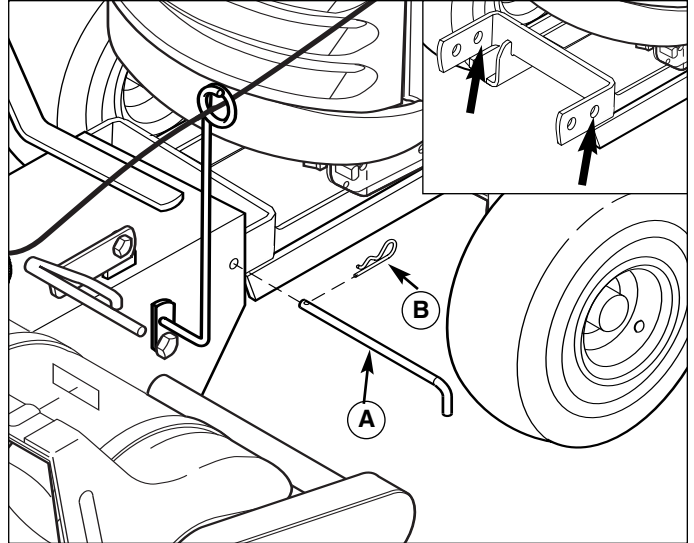

Figure 18. Install Snowthrower
1. Position the snowthrower in front of the hitch. Insert the hitch pin (A, Figure 18) through the snowthrower and hitch on both sides of the snowthrower. Secure with a hair pin clip (B). Use the back set of hitch holes (see inset).